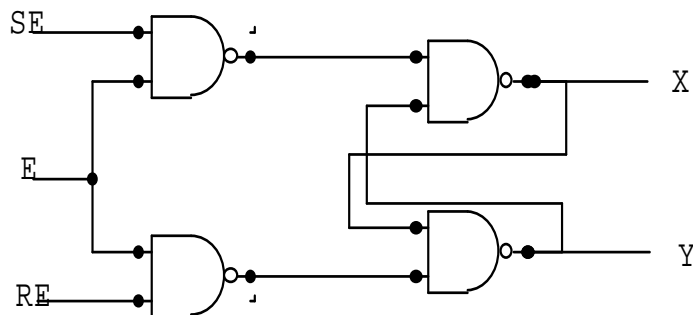
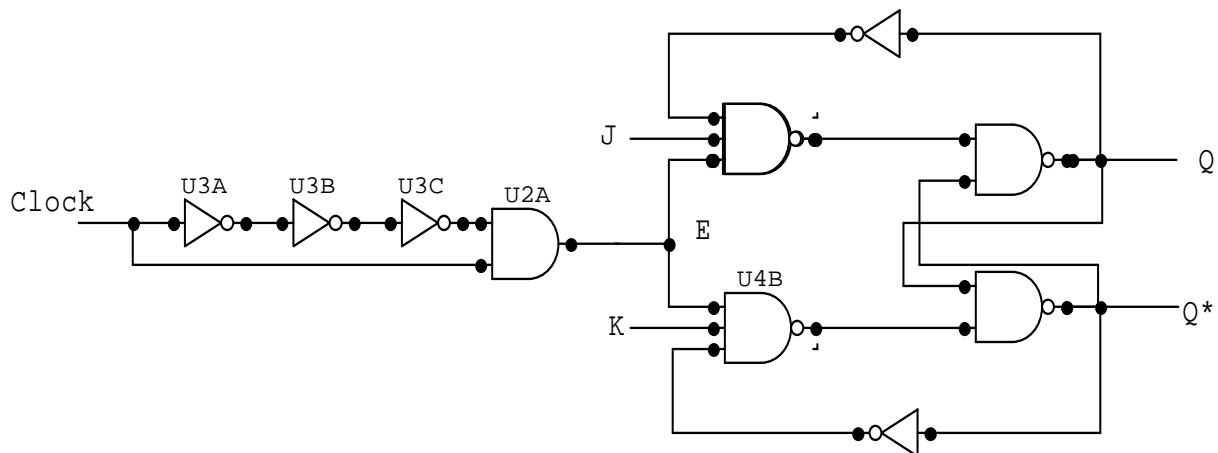

Figure 4.6: Gated R-S Latch with Enable
Figure 4.9: Edge-Triggered J-K Flip-Flop
- Figure 4.6 shows a gated latch designed to respond to the **SE** and **RE** control signals when the latch is enabled (by **E**). Note that when the latch is disabled (**E** = 0) the outputs (**X** and **Y**) remain in their current state. This condition corresponds to the $S^* = R^* = 1$ state of the R^*S^* latch of Part 4.1. If the latch is enabled (**E** = 1) this circuit operates identically to that of the R^*S^* latch of Part 4.1 except that the inputs (**SE** and **RE**) are inverted. You need not fabricate this circuit, merely understand its operation, and explain how it works.
Convert the Gated R-S Latch of Figure 4.6 into an Edge-Triggered Flip-Flop by connecting the output of the edge detector to the enable input (E) of the latch. In anticipation of the construction of the circuit of Part 4.3 (Figure 4.9), you should use three input NAND gates. Instead of using the Clock or the Function Generator as a source of clock pulses, connect the output of a Logic Bit Input Momentary Contact Pushbutton Switch to the Clock input of the Edge-Detector. Depressing and releasing this pushbutton switch generates one "clock" pulse. With the switches and LEDs connected to the circuit, study how the inputs affect the outputs. Do the outputs change on the rising edge (positive-edge triggering) or on the falling edge (negative-edge triggering) of the clock? Note that this circuit produces a very narrow pulse which, if the gates are fast enough, will be insufficient to switch the flip-flop. If this is the case you may consider widening the pulse by inserting an additional two inverters in series with the existing three.
1. Construct the J-K circuit of Figure 4.9 which is obtained from the edge-triggered R-S flip-flop by adding feedback. Use type 00 NAND gates for the two inverters in the feedback loop. Make sure that the two gates used to form the two inverters are on the same chip so the propagation delays are the same. Note that the timing of this circuit is critical for the input combination $J = K = 1$. For this input combination, only one of the (three-input) input gates is enabled; the inverters in the feedback loop from Q and Q^* insure that the (single) input gate is enabled which causes the output to toggle (change states). For example, if the flip-flop is in the $Q = 1$ state only the lower input gate is enabled, so that on the next clock pulse (for $J = K = 1$) the flip-flop is reset to $Q = 0$. The critical timing arises from a "race" between the width of the clock pulse (three propagation delays) and the (four propagation delay) path which enables the opposite input gate. For the input combination $J = K = 1$, the leading edge of the clock will initiate the state change of the flip-flop (which will take three propagation delays to complete). This change is reflected back to the input after four propagation delays. By this time the clock pulse would have gone away lest a second flip-flop transition be gated through the input gates. Normally this circuit is self-contained within a single integrated circuit so that the gate delays can be controlled and the stability guaranteed.